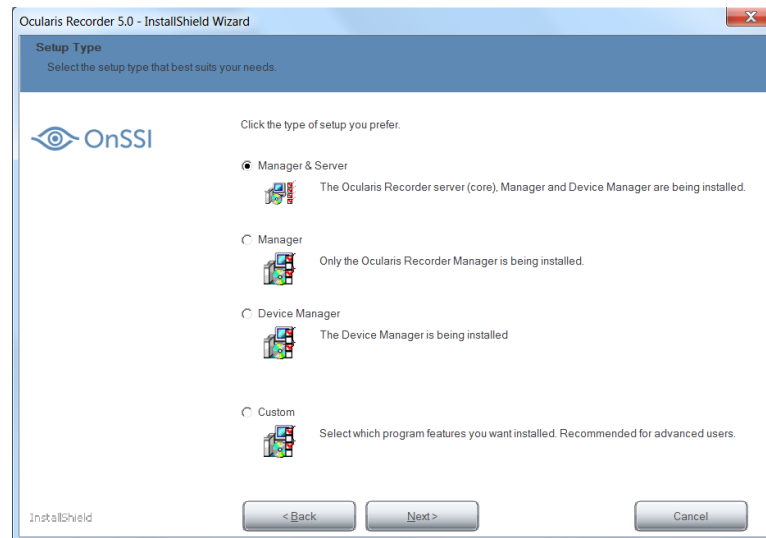

Figure 13 Select the Set up Type
8. Select 'Manager' as the Setup Type (see *Figure 13*) and click **Next**.
8. Select 'Device Manager' as the setup type (see *Figure 13*) and click **Next**.
8. Select 'Custom' as the setup type (see *Figure 13*) and click **Next**.